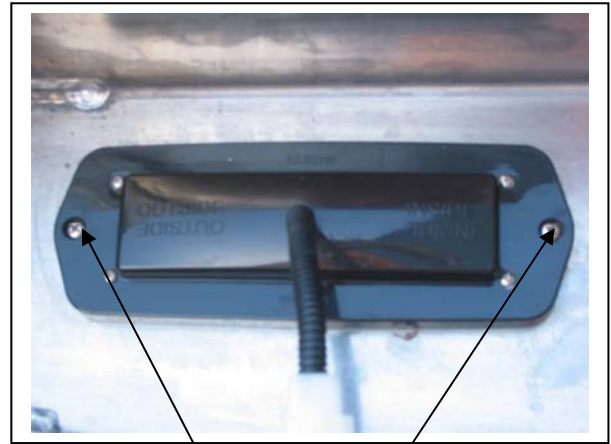

Figure 6
9. Fit ECB LED indicator / park lights (supplied) into protection bar as per instructions supplied with the LED indicator kit. **NOTE: Ensure park light is to outside. See figure 6.**